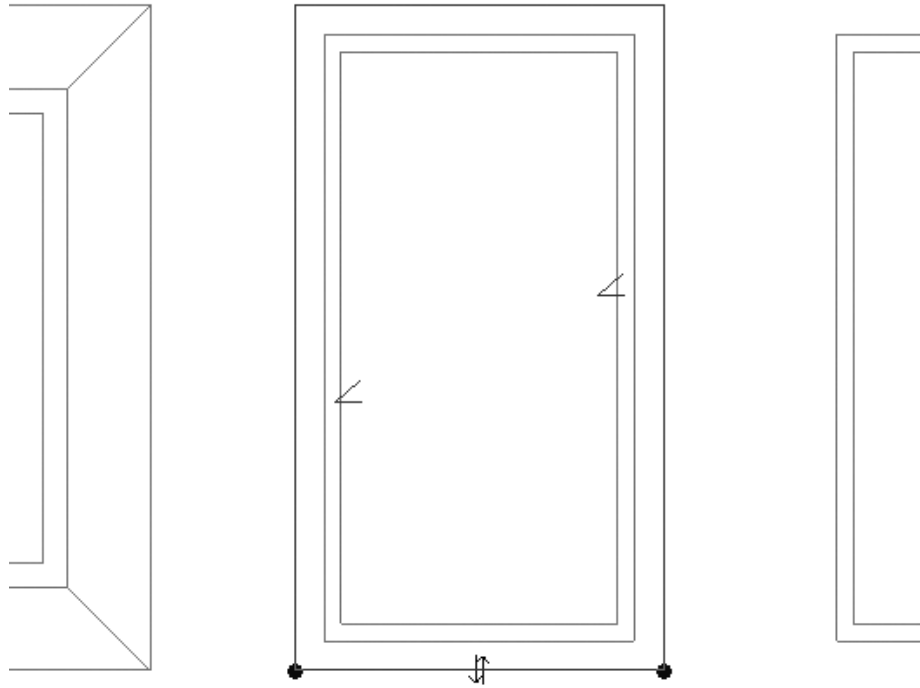

FIGURE 7-1.5 Gable – plan view
- Select the remaining two walls (Figure 7-1.5).